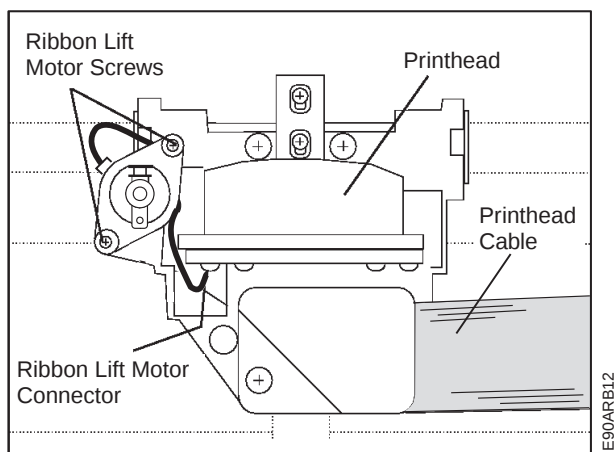

Figure 138. Ribbon Lift Motor - New. (Viewed From Top)
1. The position of the wiring on the new ribbon lift motor is different from the positioning of the wiring on the original motor. See Figure 138 on page 406 for correct motor positioning and routing of the wiring. Route the cable around the platen side of the motor between the mounting post and the motor body.